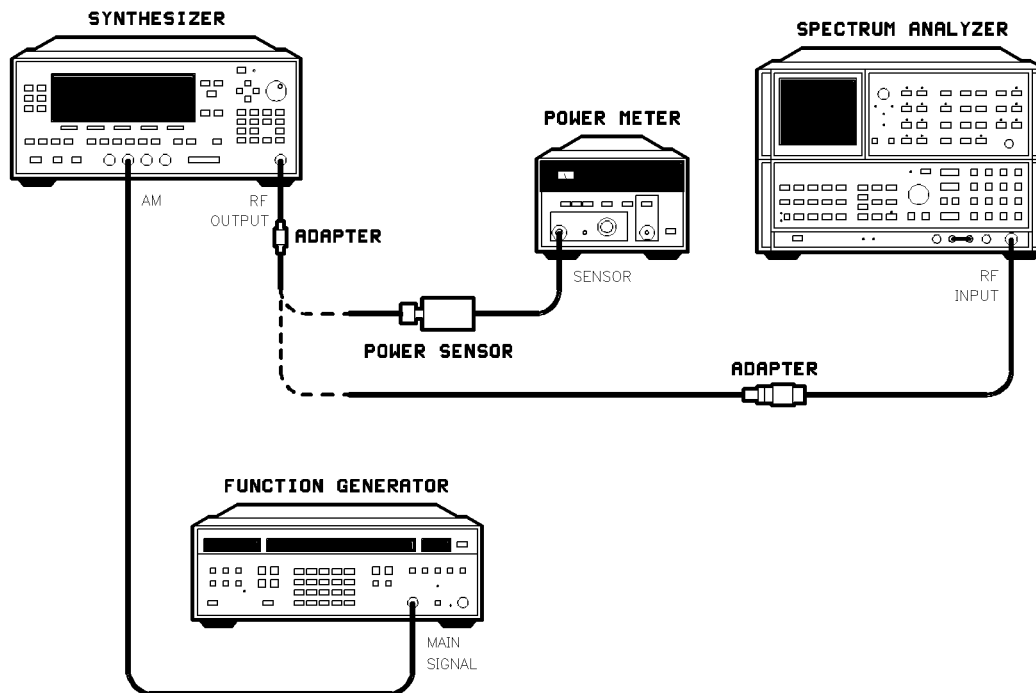

Figure 2-27. AM Dynamic Range Test Setup
1. Preset the instruments shown in Figure 2-27 and let them warm up for at least one hour.
4. Connect the equipment as shown in Figure 2-27 with the power sensor connected to the synthesizer's RF OUTPUT.
13. Disconnect the power sensor from the synthesizer and connect the spectrum analyzer as shown in Figure 2-27.